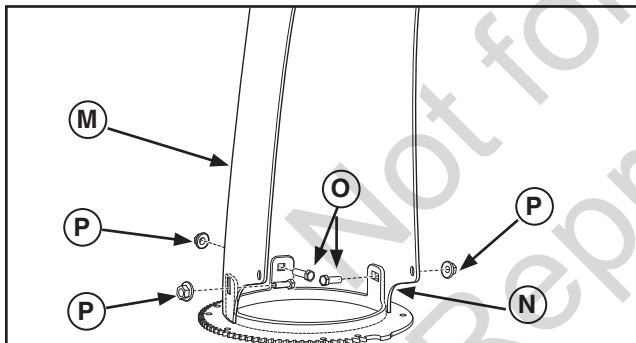

Figure 5
1. Place discharge chute (**M**, Figure 5) over tabs on chute ring (**N**) as shown.